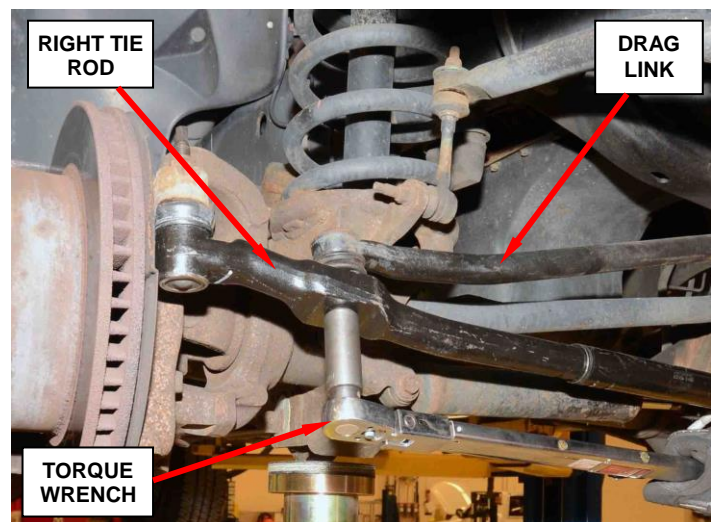

Figure 8 – Tighten Drag Link Nut
16. Connect the drag link to the right tie rod end (Figure 8). Tighten the new drag link retaining nut to 96 ft. lbs. (130 N·m).